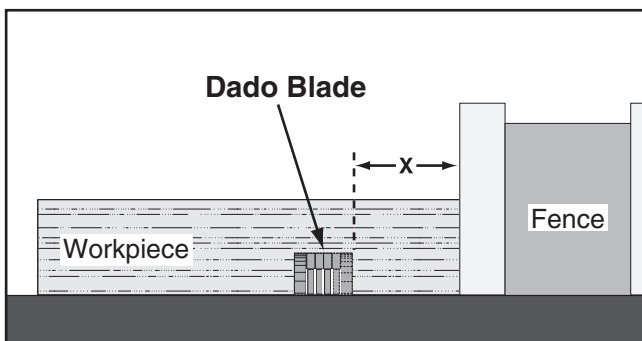

Figure 60. Example of a dado being cut with a dado blade.
3. Adjust distance between fence and inside edge of blade, as shown in **Figure 60** on **Page 45**, to dado length of a workpiece.